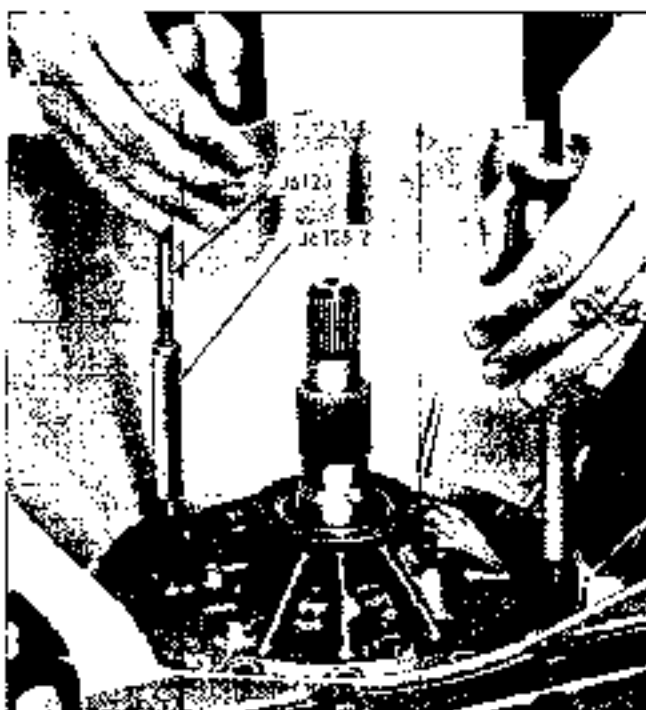

Fig. 7F-28 Removing Oil Pump
1. With transmission in vertical position, remove eight oil pump attaching bolts. Install slide hammers J 6125 and adapters J 5125-2 into threaded holes in pump, loosen pump and remove pump and gasket (Fig. 7F-26).